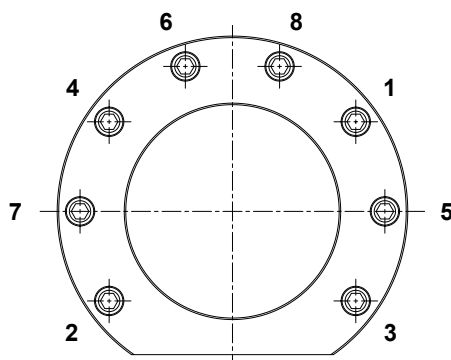

FIGURE 48
- Install the bearing cone (5.03) and the bearing pre-load spacer (5.05) secure using the M12 screws (5.20) see Figure 48 for the correct order to tightening the screws also see section 6.2 for torque settings.
- Install the gearbox O-ring (5.22) and secure the pre-load spacer (5.05) with the M12 screws (5.20) see Figure 48 for the correct order to tightening the screws also see section 6.2 for torque settings.